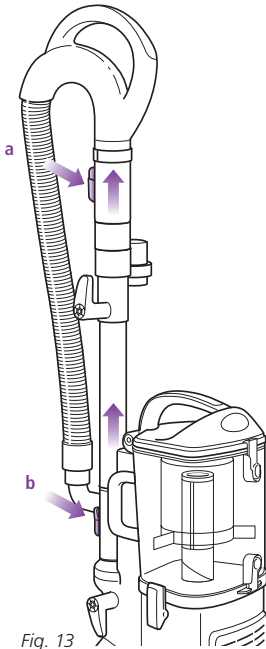

Fig. 13
- 2 Press the handle release button **(a)** and pull the handle up or press the extension wand release button **(b)** and pull the extension wand up. (Fig. 13)